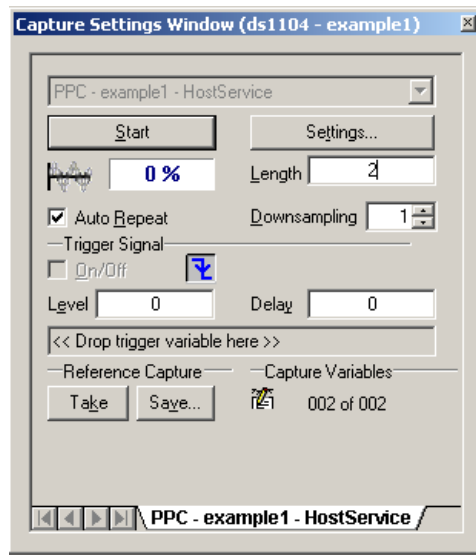

Figure 2.16: Capture Setting Window
- Open the Capture Settings Window and set the Length of the simulation as 2, while leaving unchanged the Downsampling number. Your capture settings should look like as shown in Fig. 2.16. For more complex systems this number has to be increased when the Length is larger than 20 times the sampling time.